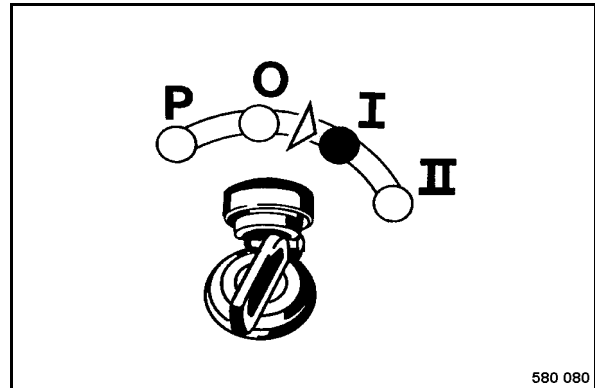

Fig. 200
- Turn the ignition key (Fig. 200) to position "I".